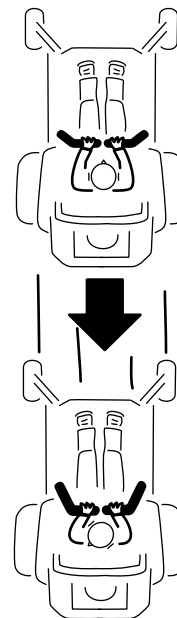

Figure 26
2. To go in reverse, slowly pull the motion-control levers rearward (Figure 26).